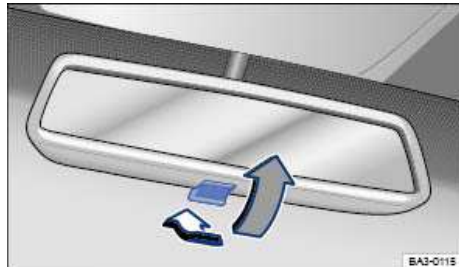

Fig. 111 Manually adjustable inside mirror.
- To adjust to non-glare visibility, move the lever so that it points backward ⇒ fig. 111.